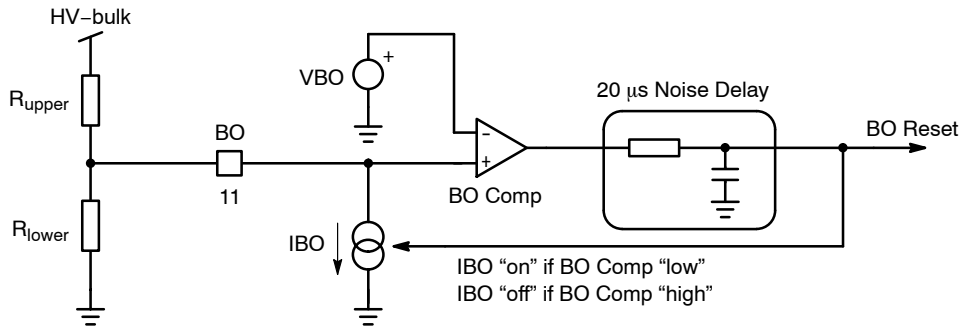

Figure 21. Brown-Out Circuit
The C and D versions of DAP013 feature a Brown Out pin (BO) which protects the power supply against low input voltage conditions (Figure 21). This pin permanently monitors a fraction of the bulk voltage through a voltage divider. When this image of bulk voltage is below the BO threshold, the controller stops switching. When the bulk